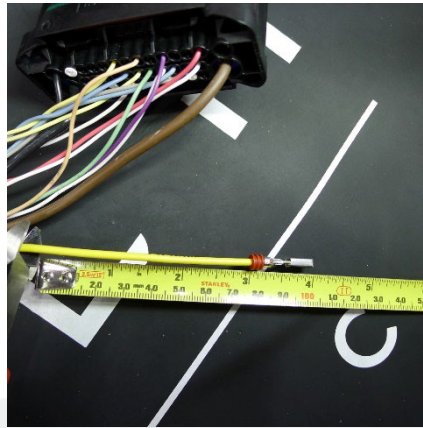

Figure 13
13. Cut the yellow power terminal wire 100 mm from the end (Figure 13), and then discard the end.